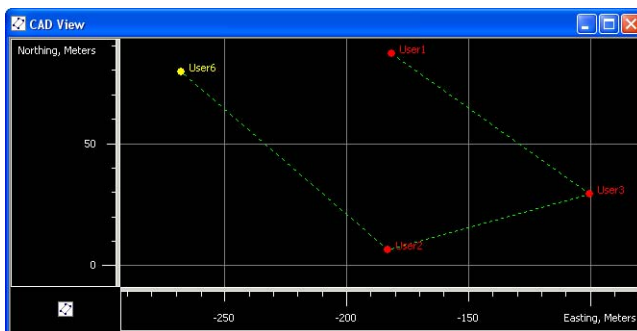

Figure 5-31. Example: Appending Points to the Line
2. Click any line on the CAD view to automatically append the selected point to (Figure 5-31). The *Linework* tab display a new vertex of the line